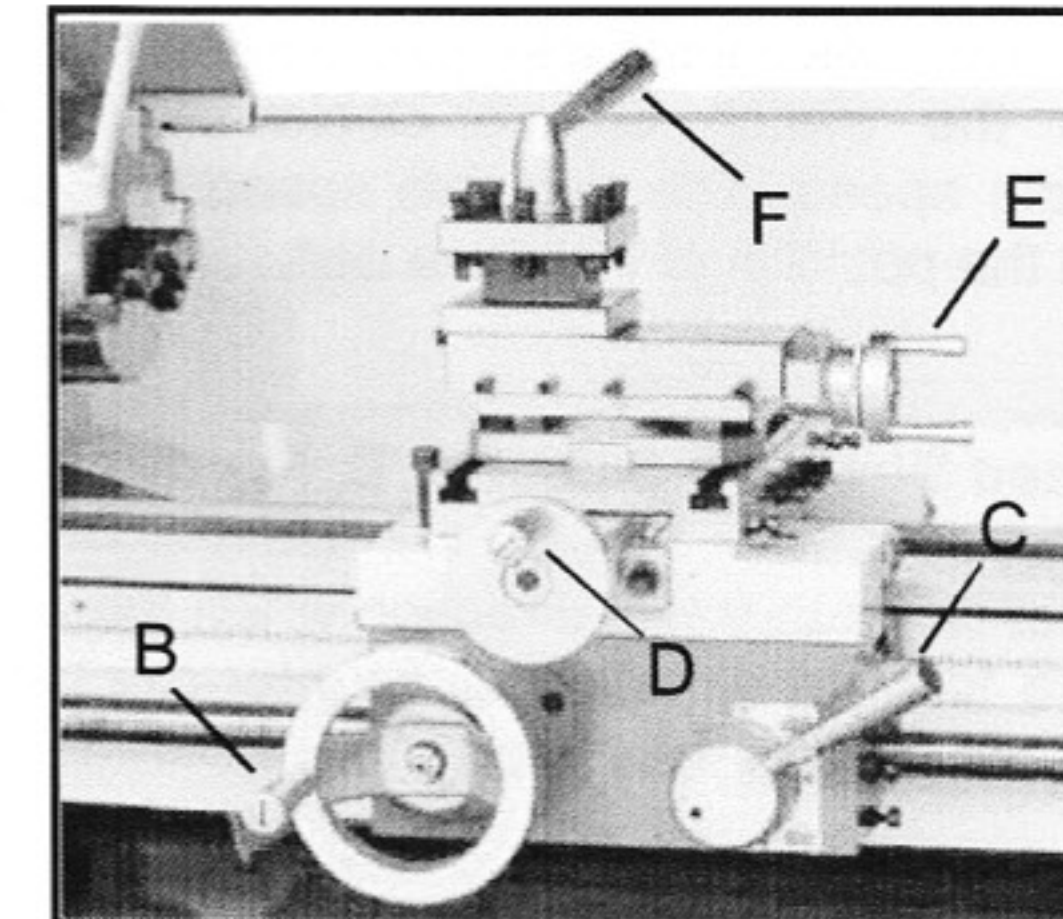

Fig. 15
10. Longitudinal Traverse (B, Fig. 15)
11. Half Nut Engage Lever (C, Fig. 15)
12. Cross Traverse Handwheel (D, Fig. 15)
13. Compound Rest Traverse Lever (E, Fig. 15)
14. Tool Post Clamping Lever (F Fig. 15)